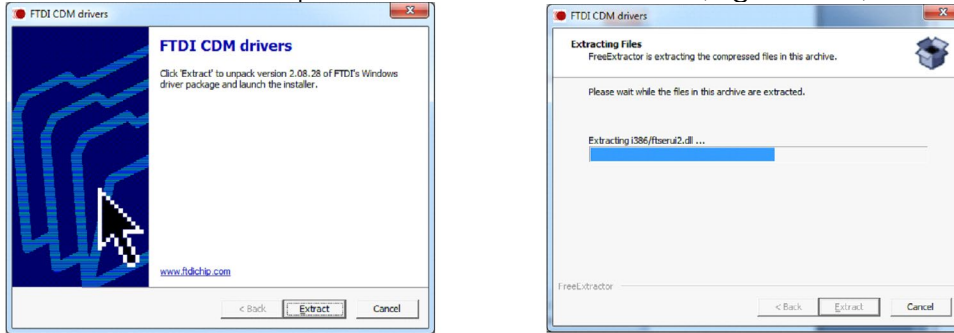

Figure 3.44. FTDI - Begin Installation
7. Click **Extract** to unpack the driver for installation (Figure 3.44).